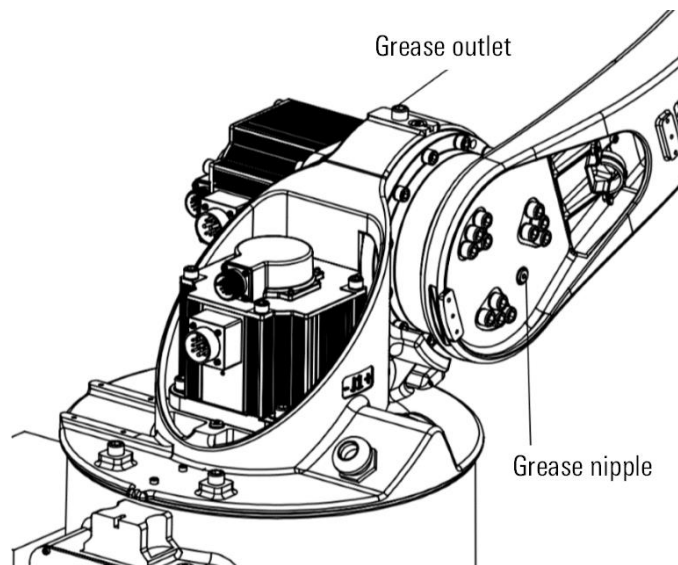

Figure 12-7 Replace the grease of J2 axis reducer
- Step4. Remove the grease outlet M10x1 plug, as shown in Figure 12-7.